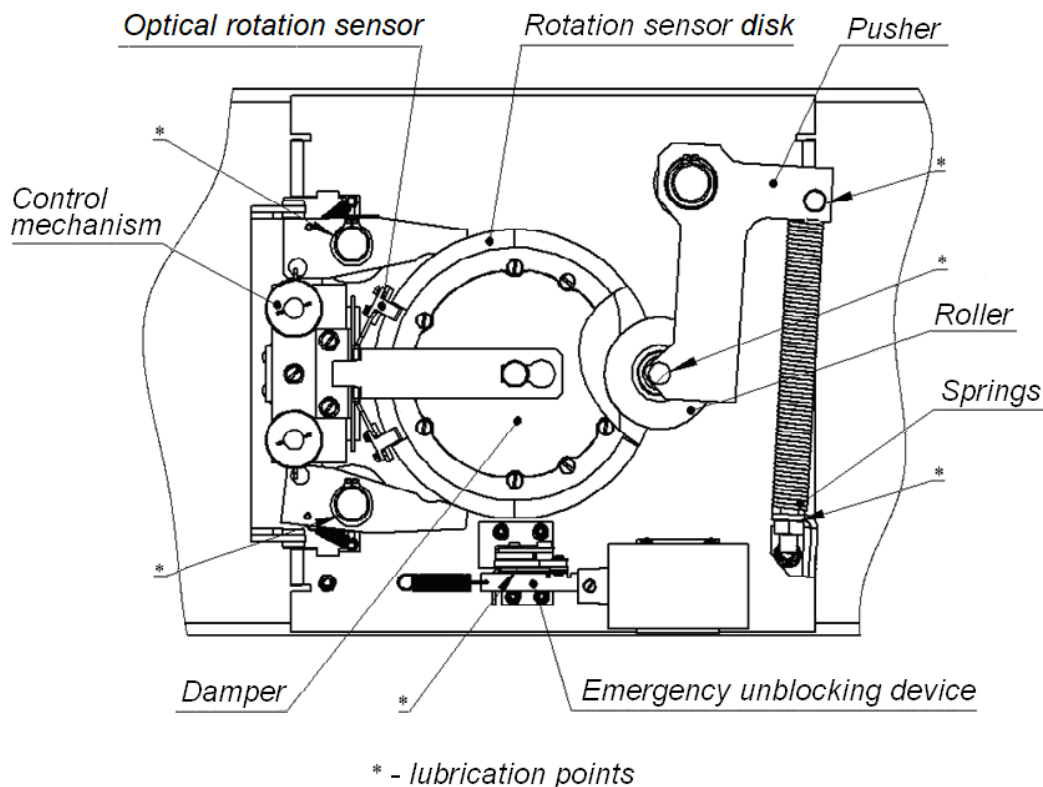

Fig. 16. Interior components of the TBC-01.9A turnstile mechanism
2. Remove the turnstile top cover (3) from the turnstile housing as described in Section 6.
4. Inspect the resetting mechanism (a pusher, springs, and a roller), optical rotation sensors for the barrier arms, and a damper (see Fig. 16).
6. Lubricate the following friction units of the turnstile mechanism with machine oil (lubrication points are marked in Fig. 16):